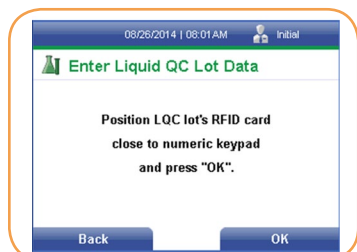

FIGURE 107
3. To run another liquid control, use the [↓] key to Next Control menu item. Press the right soft key to select it. The Prepare to Perform QC Tests screen will be displayed, ready for the next QC Barcode number to be scanned (Figure 107).